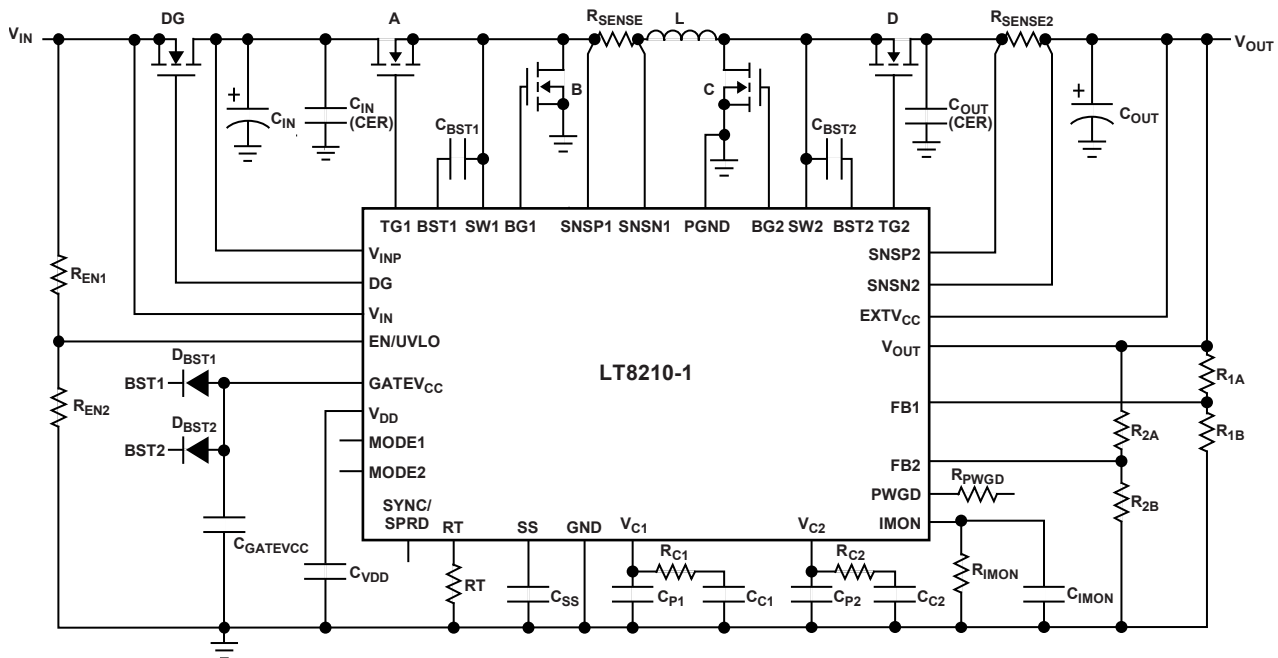

Figure 60. Basic LT8210-1 Applications Circuit
The applications information section serves as a guideline for selecting external components based on the details of the application. For this section, refer to the basic LT8210-1 application circuit shown in Figure 60. Component selection typically follows the approach described below:
The LT8210-1 requires four external N-channel power MOSFETs (switches A, B, C, and D in Figure 60). The gate drive voltage of the LT8210-1 is typically greater than 10V allowing the use of both logic-level and standard-level threshold devices. The MOSFET maximum $V_{BR(DSS)}$ and drain current (I_D) ratings should exceed the worst-case voltage and current conditions of the application, with an added margin for safety. The maximum continuous drain current of a power MOSFET is de-rated as a function of temperature, with that information commonly available in the data sheet. It is important to consider power dissipation when selecting power MOSFETs. The most efficient circuit will use MOSFETs that dissipate the least amount of power. Dissipated power and the resulting temperature rise in external components will set the upper bound on the power that can be delivered by the LT8210-1. MOSFET power dissipation comes from two primary components: (1) I^2R conduction losses when the switch is fully turned on and drain current is flowing, and (2) power dissipated while the switch is turning on or off. Conduction losses are independent of frequency. Switching losses, on the other hand, scale with frequency and voltage. Generally speaking, conduction losses are dominant at higher currents and lower voltages, whereas switching losses tend to dominate at lower currents and higher voltages. Accurately predicting MOSFET power dissipation is a complex problem that is best suited to efficiency calculators such as those included in LTpowerCAD® II. That being said, efficiency calculators are no substitute for real-world measurements. The following section provides approximations of the main source(s) of